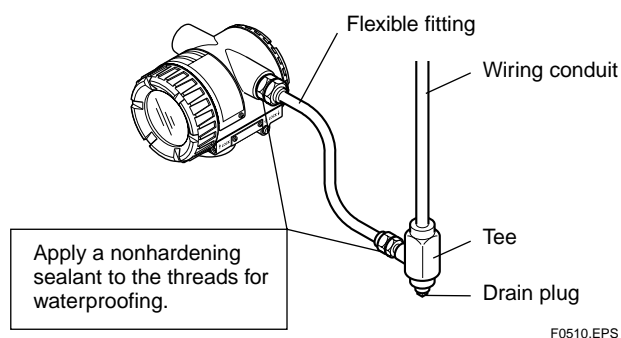

Figure 5.10 Example of Wiring Using a Wiring Conduit
- Apply nonhardening sealant to the threads of the wiring tap and a flexible fitting for secure waterproofing. Figure 5.10 shows an example of wiring on the output side. This example also applies to the wiring on the input side.